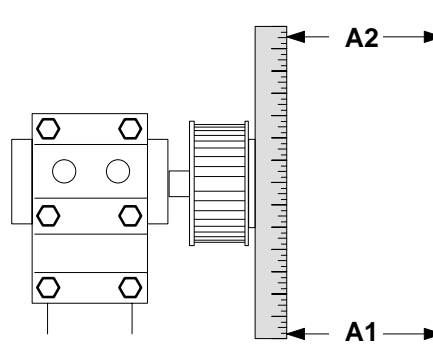

Figure 14 Gearmotor Pulley Replacement - Adjusting Position on Shaft
6. See Figure 14. Place a straight edge across the bushing and measure distances **A1** and **A2**. Position the bushing so that distances **A1** and **A2** are the same as that measured before removing the pulley.